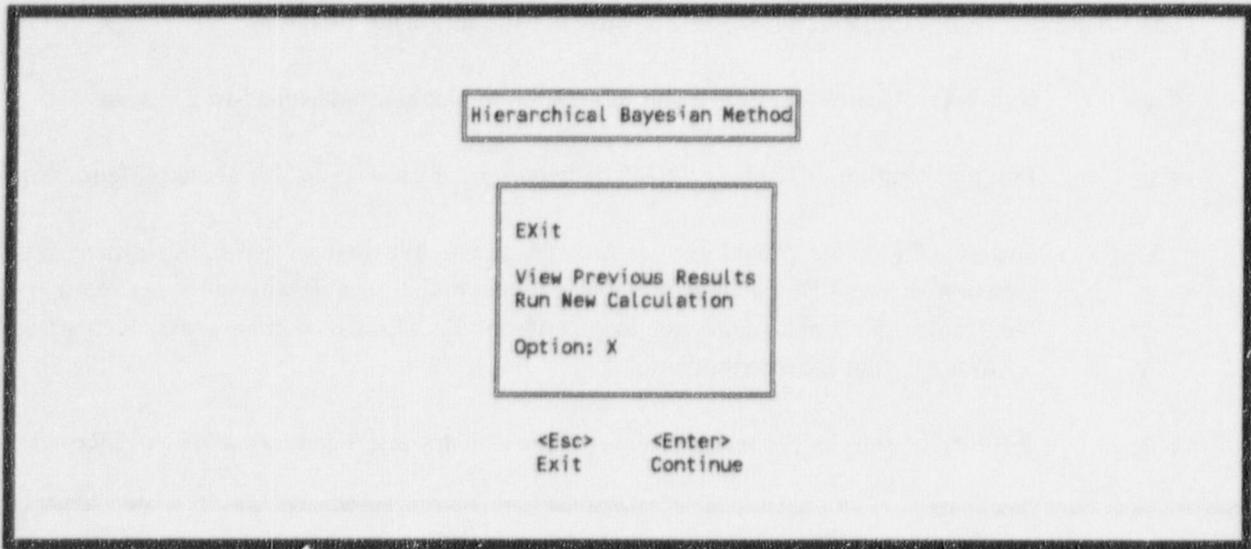

Figure 27. Generic—Hierarchical Bayesian Method menu.
**3.4.1.2.2 Hierarchical Bayesian Method**—The results of Hierarchical Bayesian menu is displayed in Figure 27.